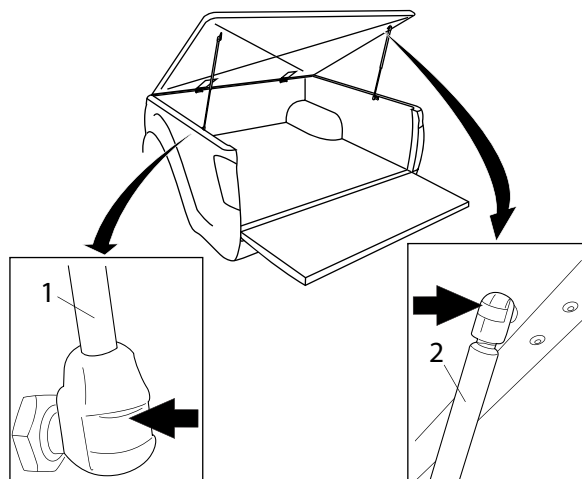

FIGURE 2
2. Attach gas struts (2) by clipping into place. Ensure narrow end (1) mounts to the vehicle. Refer to figure 2.